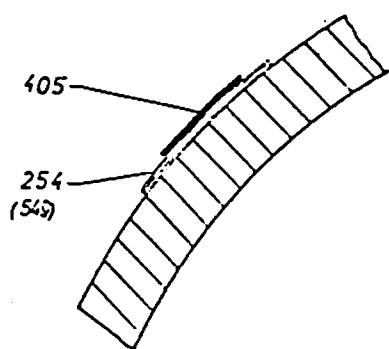

Fig. 4
5. Stick "Scotch" tape No. 254\* (30 mm wide, adhesive on one side only) on to the front winding drum across the whole crown width as shown in fig. 4. On to this tape, stick the "Scotch" tape No. 405 (19 mm wide, adhesive on both sides, one side protected by a plastic foil). Now remove the protective foil from Scotch tape No. 405.